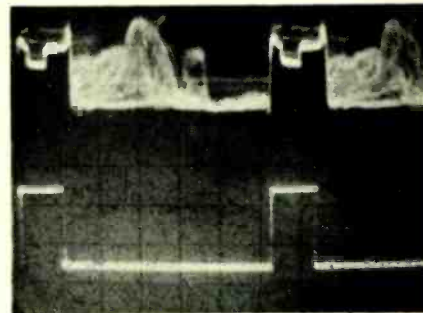

FIG. 8—UPPER TRACE shows scrambled signal; lower one shows gating pulse from decoder.
- Adjust R6, R7, and R8 to obtain the waveform shown in Figs. 8, 9 and 10. First adjust R6 and R7, then R8, to obtain the waveform shown in Fig. 10. Some slight readjustment of R6 and R7 may be necessary to eliminate spik-